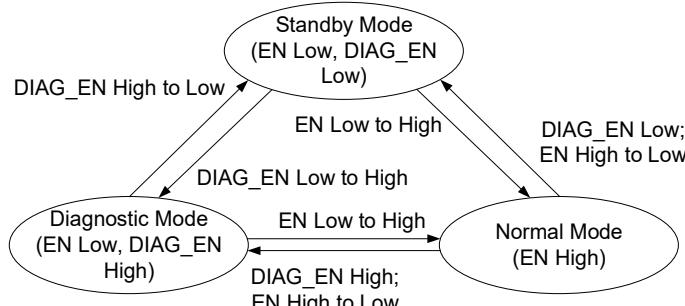

Figure 1: Operation Mode State Machine
5. For information on standby mode, diagnostic mode, and normal mode, refer to the MPQ5871's datasheet. Figure 1 shows the operation mode state machine.